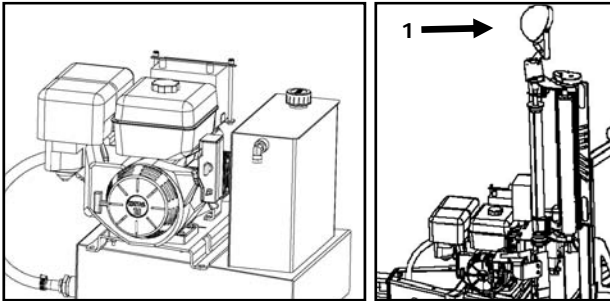

Figure 8.1 Hydraulic unit and work light
These 2 options complement the Honda engine of the hydraulic unit. The work light (1) is installed on top of the plastic film stretcher (Figure 8.1).